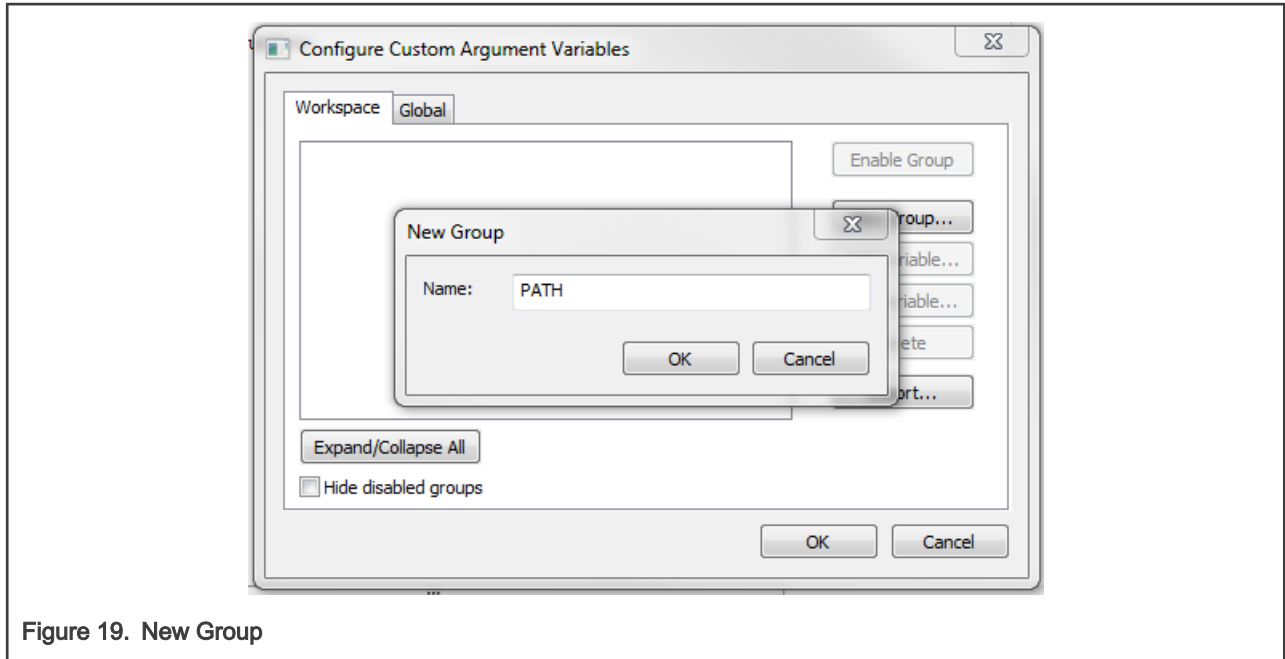

Figure 19. New Group
2. Click the New Group button, and another dialog appears. In this dialog, type the name of the group PATH, and click OK. See Figure 19.